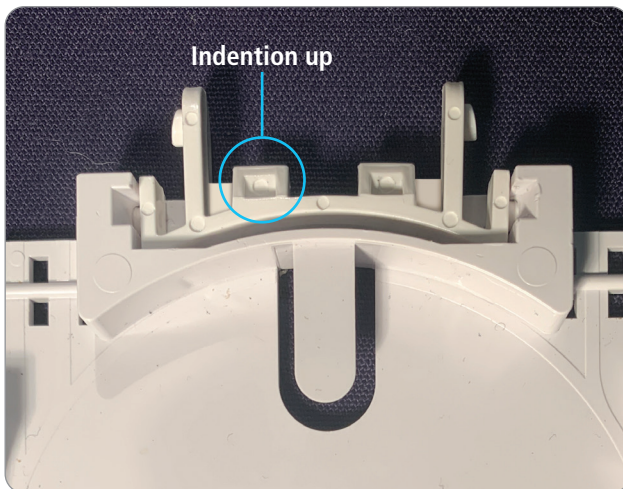

Figure 3
3. Install AFL Apex Adapter to tray in the proper orientation, with indentation facing up. Insert one side of the Apex adapter in the A-B tray and lower the second side into place. Press firmly to secure adapter. (Figure 3)